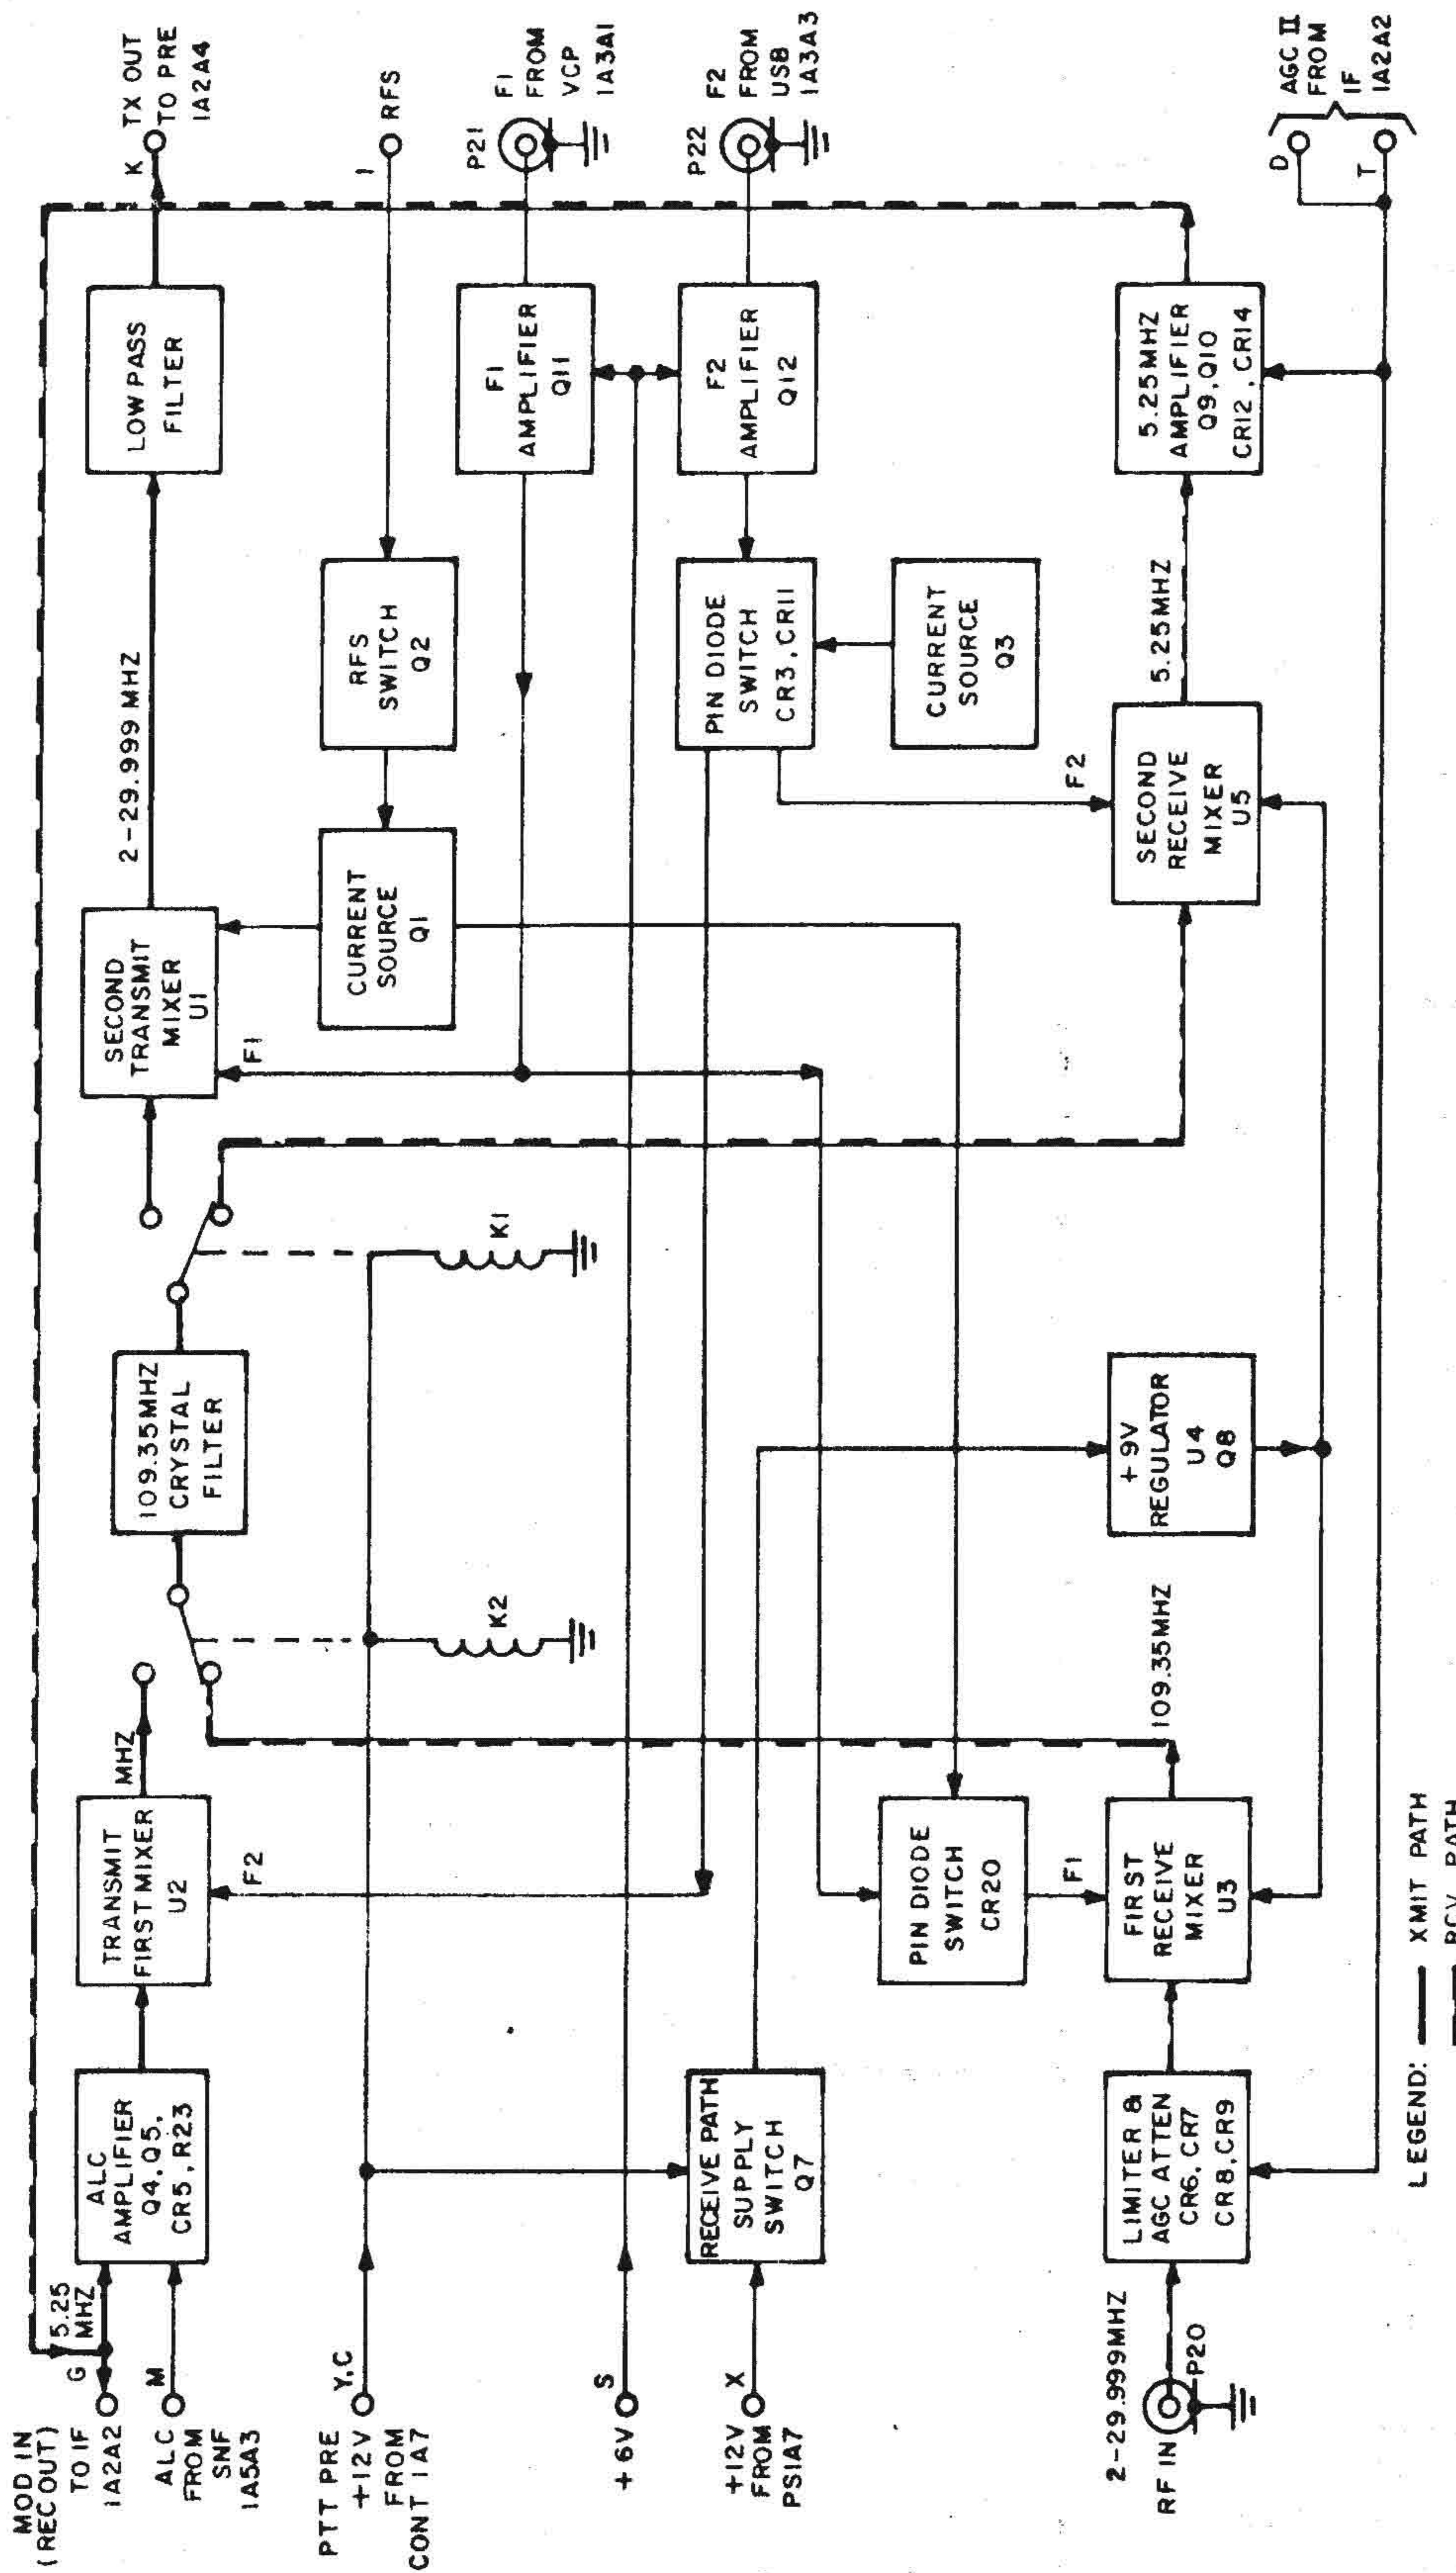

Fig. 2-21. Module MIXER 1A2A1, block diagram
2-10. Module MIXER 1A2A1 (fig. 2-21 through 2-24)
a. Block Diagram Analysis (fig. 2-21).
(1) Transmit path. The transmit path is activated by the appearance of +12V on the PTT PRE +12V line. Concomitantly, the supply voltage of the receive path is disconnected by the receive path supply switch, thereby disabling the receive path.